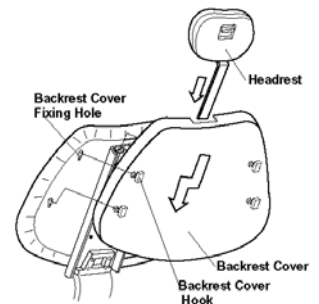

Fig.3-7 Fixing Backrest Cover and Headrest
(10) Placez le carter du dossier (Fig 3-7)
(11) Placez la tête (Fig 3-7)